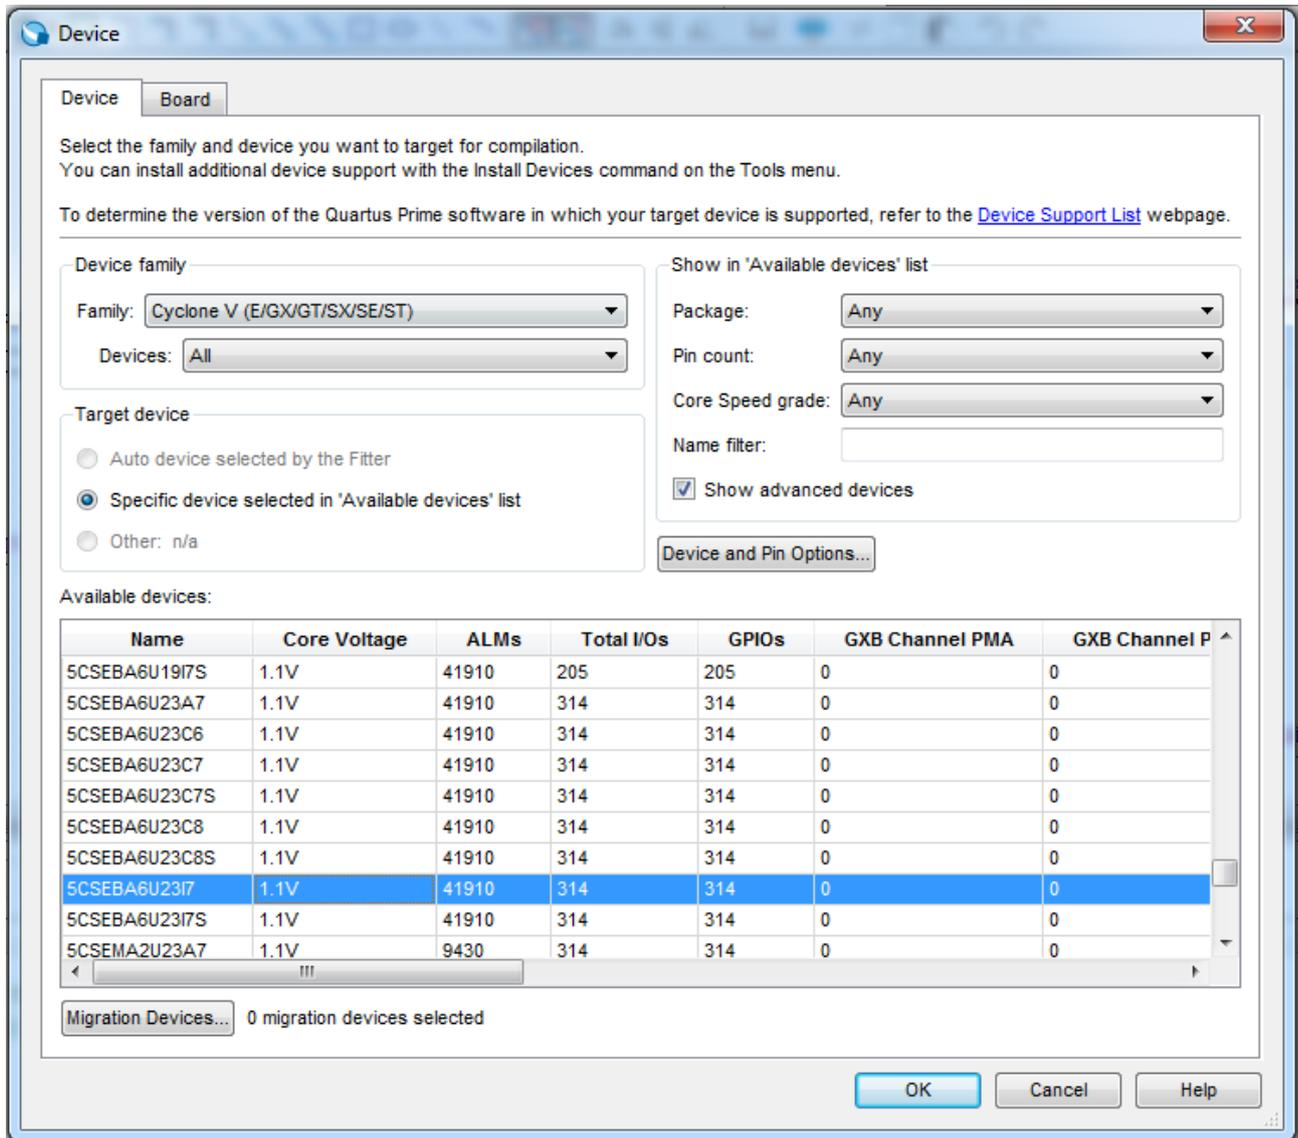

Figure 4-10 Device and Options
3. If other LEDs emit faintness light, Choose Assignments > Device. Click Device and Pin Options. See Figure 4-10.